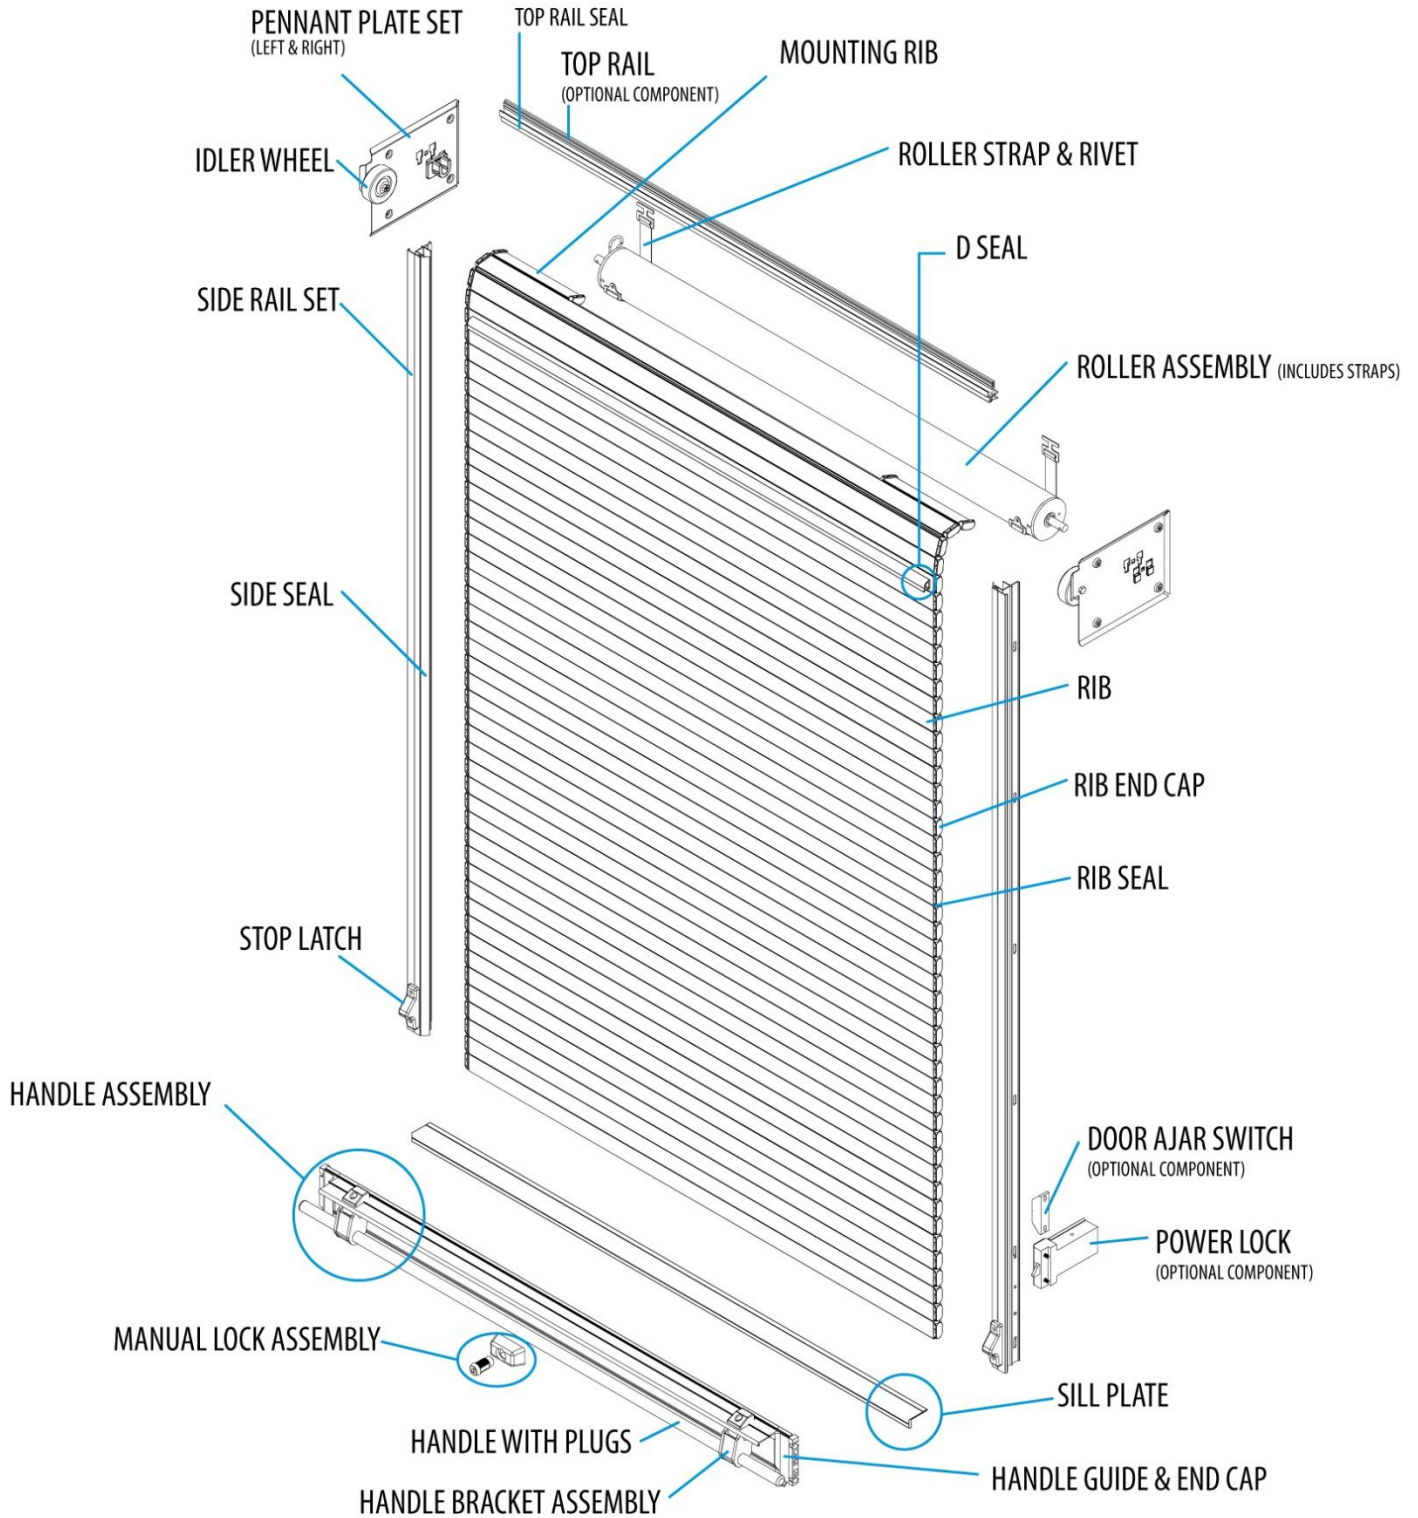

Figure 2
- Refer to the assembly drawing (**Figure 2**) to verify if all ordered components are present.